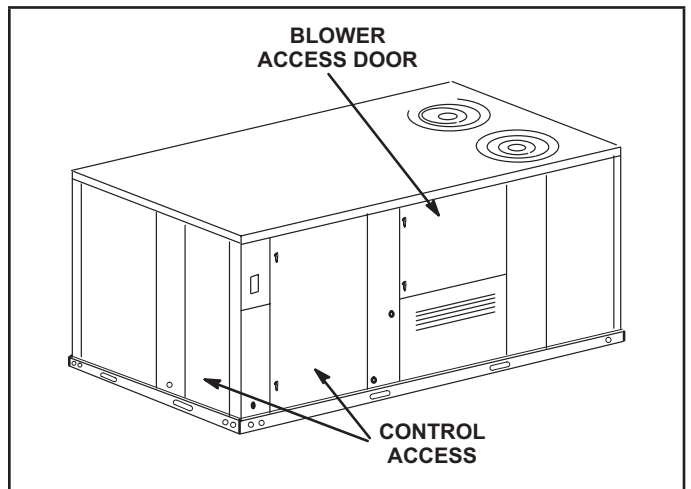

FIGURE 1
- 2 - Open access panels. See FIGURE 1.